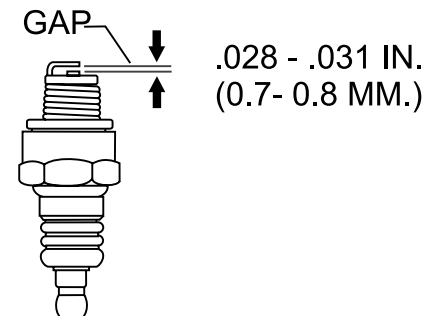

Figure 33. Spark Plug Gap
5. Measure the spark plug electrode gap (Figure 33) with a wire-type feeler gauge. If needed, adjust the gap to 0.70–0.80 mm (0.028–0.031 in.) by carefully bending the side electrode.